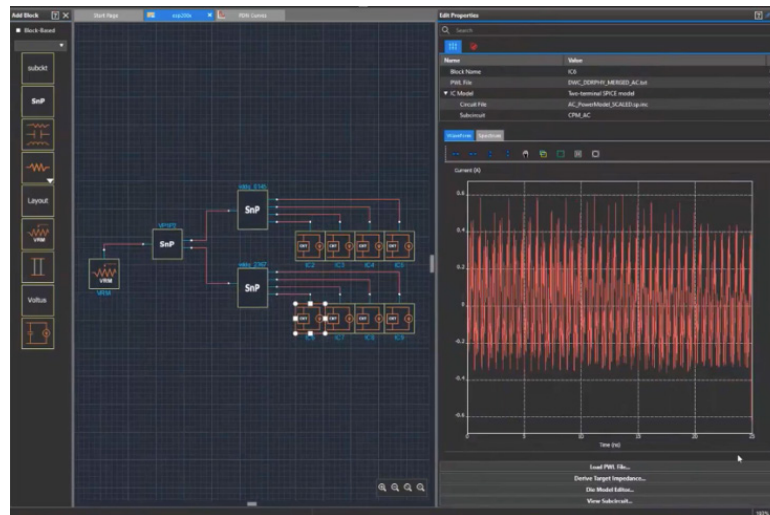

Figure 26: PWL simulation
- In this instance the PWL that is being simulated can be viewed, as shown in Figure 26. Various options are available in the Edit Properties window.